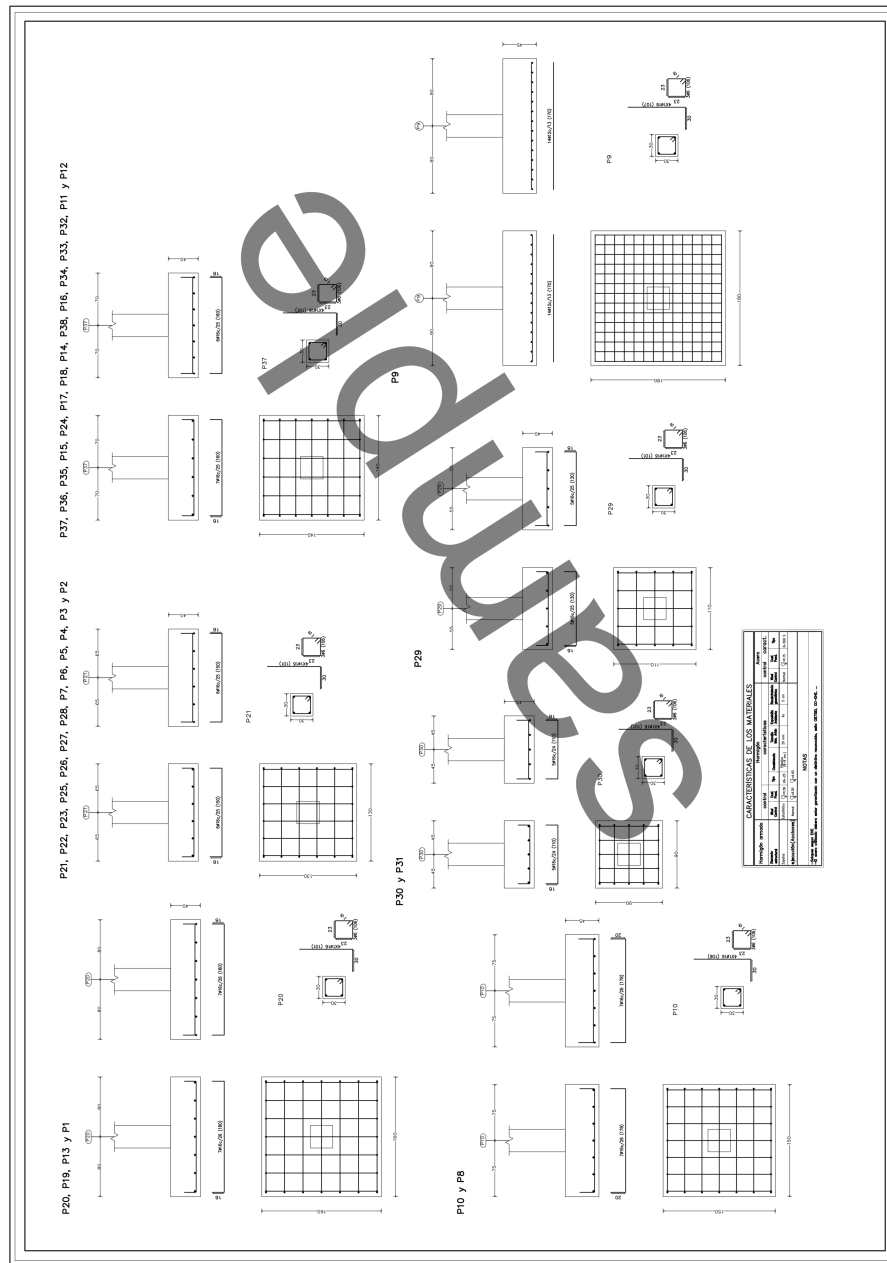

Figure 3: **Sample** drawing for the footings reinforcement.
- The reinforcement of the footings will be defined with a 2D drawing similar to the one shown in the figure 3.